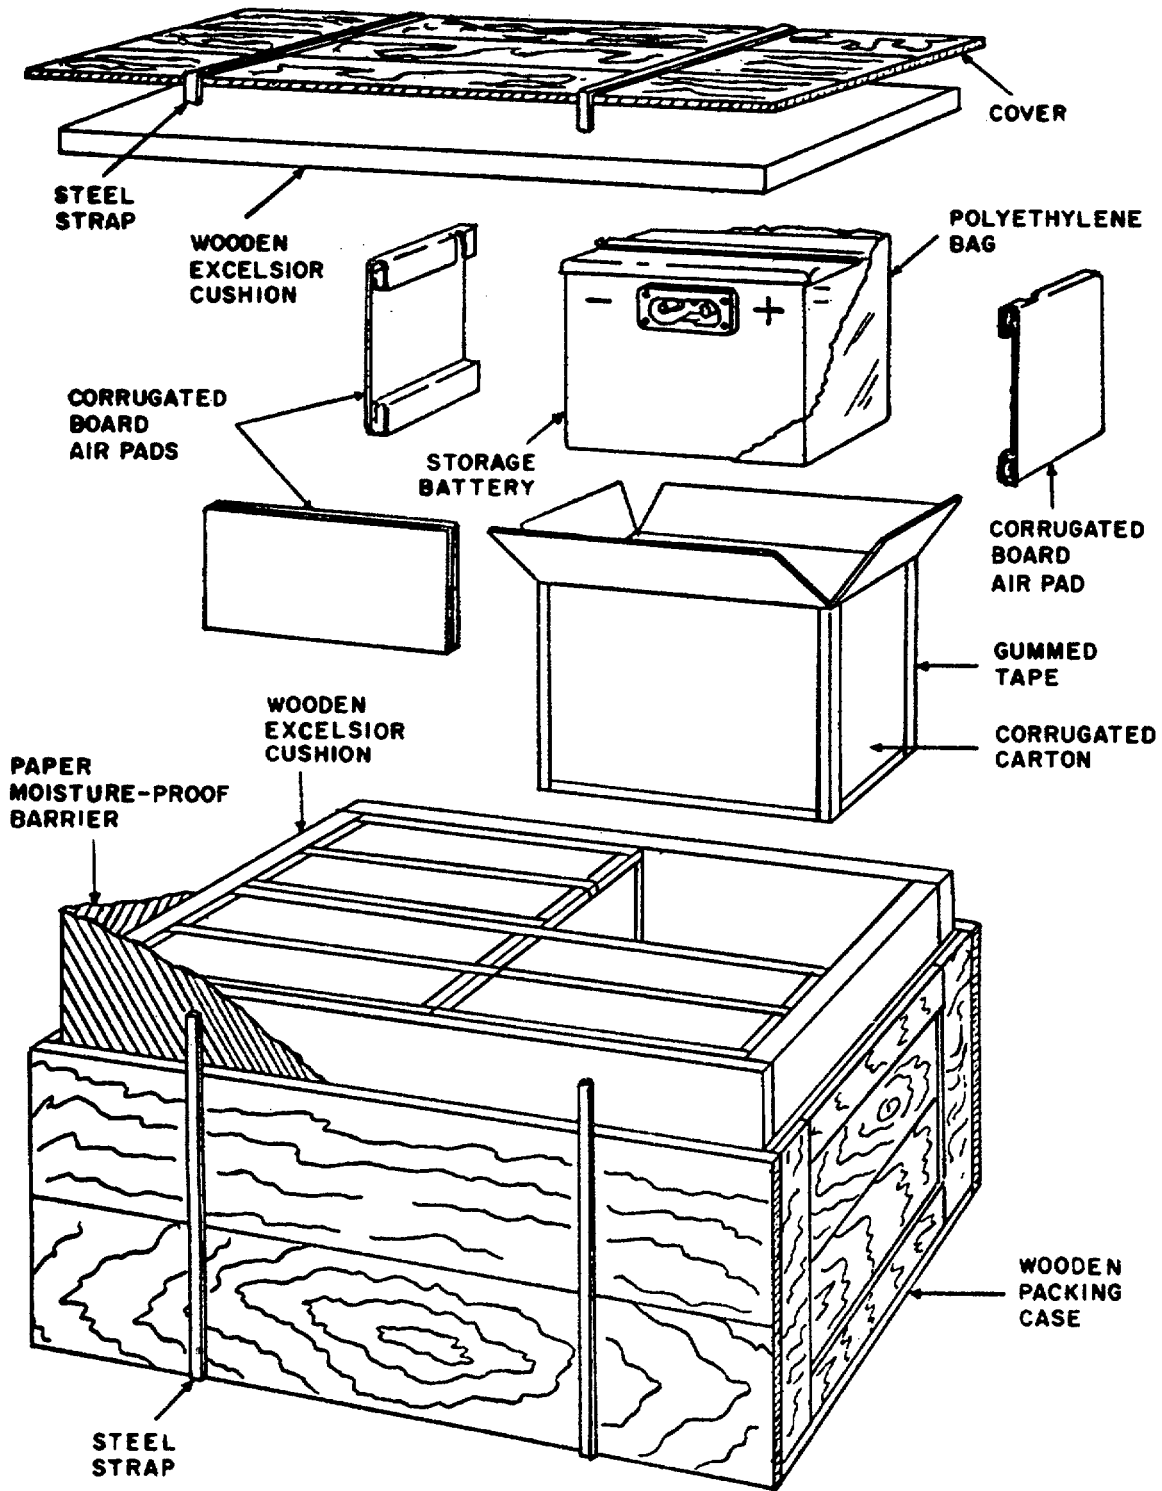

Figure 3-1. Typical Nickel-Cadmium Battery Packaging (Multiple)
- a. When packed for domestic shipment, the batteries are packed several to a larger wooden case (fig. 3-1) (each enclosed in a separate container).